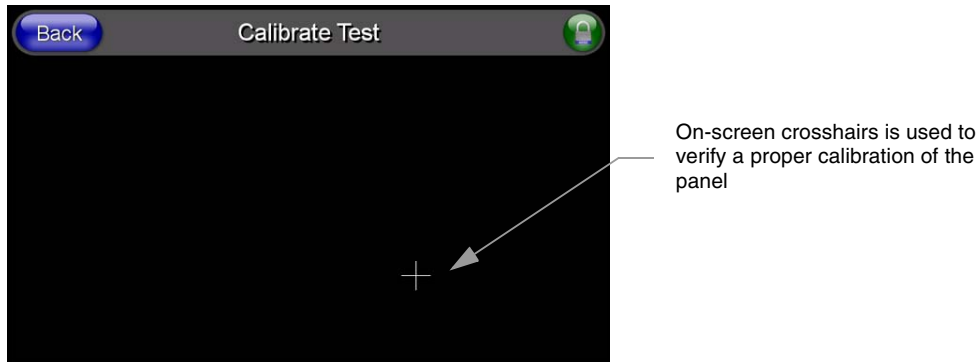

FIG. 29 Calibration Test page
1. Press and hold down the on-screen **Calibration** button for 6 seconds to enter the Calibration Test page (FIG. 29).